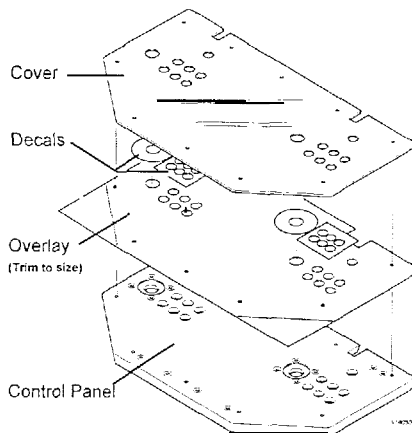

Figure 1: Overlay Installation
6. If there is an additional Control Panel Cover, figure 1 (such as plastic or lexan) that will be utilized cut any additional holes using the same template.
CONTROL PANEL OVERLAY INSTALLATION (See Figure 1)
13. Install the control panel cover, figure. 1. (If required).